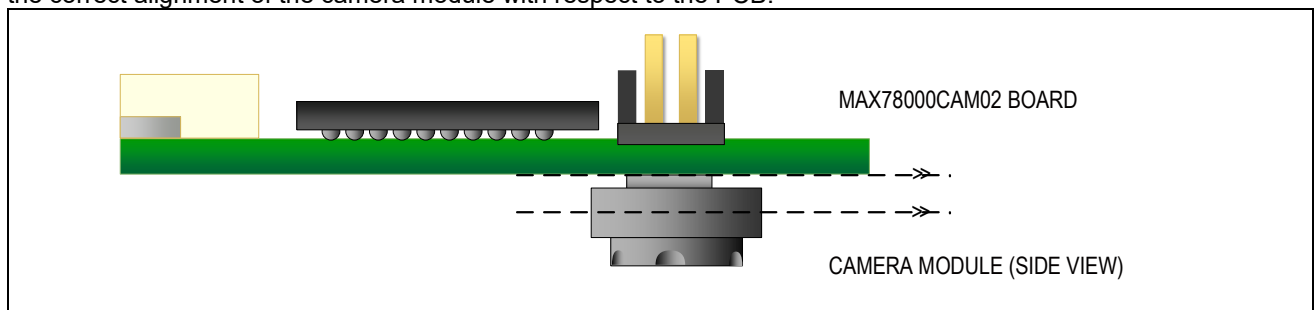

Figure 4. MAX78000CAM02 Board and Camera Module—Side View
3. The camera module is not soldered to the PCB. The module uses a board-to-board connector for the connection. Ensure the camera module is properly aligned with the MAX78000CAM02 board. Verify that the PCB and the camera module are parallel, and that the camera module is fully inserted into the board-to-board connector. See Figure 4 for the correct alignment of the camera module with respect to the PCB.